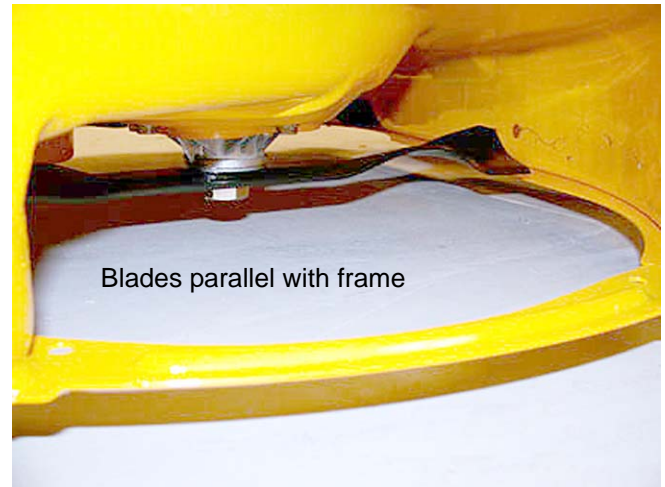

Figure 14.6
- 14.6. Using a work glove or a rag, rotate the blades until they are parallel with the tractor frame. See Figure 14.6.